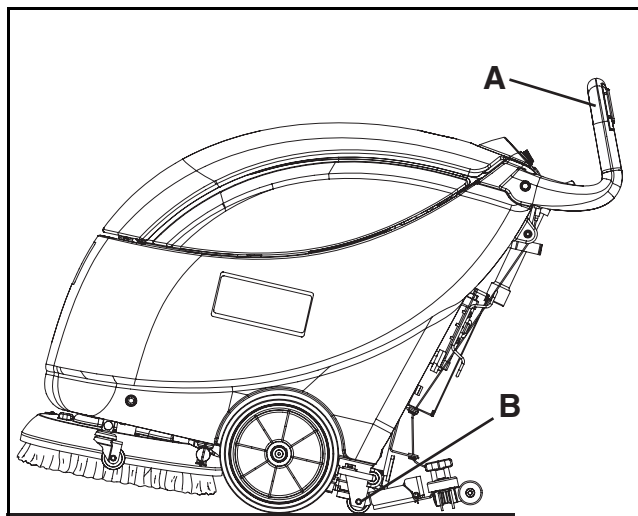

Figure 19
3. Grasp the handlebar (A, Fig. 19) and slightly lower it until the rear wheel (B) comes into contact with the floor, as shown in the figure. While holding the machine in this position, push it to the transport/parking area.